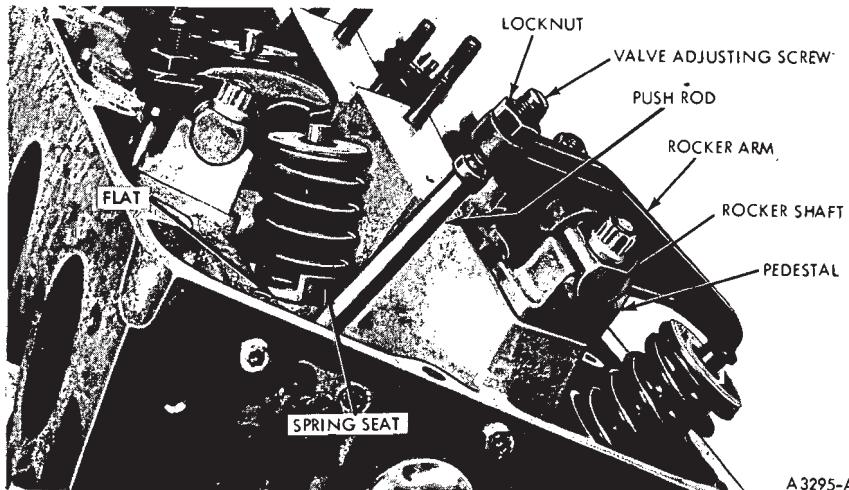

FIG. 10—Valve Clearance Adjustment
**2. With the crankshaft in the positions given in steps 3, 4 and 5, loosen the lock nut and set the valve clearance (Fig. 10) to specifications with a step-type feeler gauge (go and no go). After adjusting each valve, torque the lock nut to specifications.**